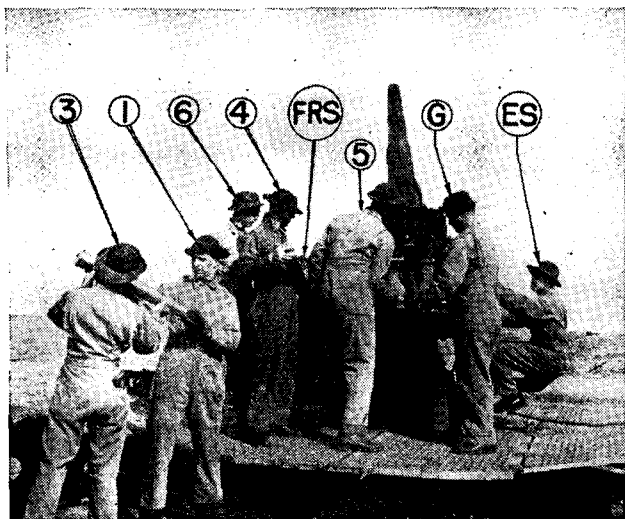

FIGURE 2.—Round being rammed, M3 gun on M2A1 mount
■ 16. METHOD OF RAMMING CARTRIDGE.—The gunner rams the cartridge into the gun with his left hand. He places his gloved fist on the base of the cartridge case, wrist practically vertical, and sweeps the round smartly into the breech, applying continuous pressure, until the closing breechblock knocks his hand clear. The cartridge is rammed with the side of the fist, the pressure being applied through the back of the thumb and the side of the index finger. In this manner continuous pressure can be applied, and the hand cannot be caught in the breech. Figure 2 illustrates the proper method of ramming.
■ 17. METHOD OF HANDLING AMMUNITION AND FUZE SETTER, M8.—*a.* (1) Nos. 4, 1, and 3 relay ammunition to the fuze setter. No. 3, takes a round from the stack near the piece, right hand grasping the projectile, left hand near the base, turns to the right, and passes it to No. 1. He then repeats the operation. No. 1 takes the round from No. 3, the round resting in his upturned palms, right hand near the base, left hand near the projectile, turns to the left, and lifting the round to the level of his eyes passes it to No. 4, who is stationed on the mount platform. He then turns to the right and receives another round from No. 3, repeating the operation. No. 4, stationed on the mount platform slightly to the rear and left of the fuze setter guide, turns to the right and takes the round from No. 1, fuze toward the setter, left hand grasping the projectile and right hand cupped over the cartridge base. He turns to the left, advancing a step toward the setter as he raises the base end to align the round with the axis of the setter. As the fuze enters the setter guide his left hand is withdrawn, and with his right hand launching the round downward to its final seating in the setter, he leans forward and, being balanced by his right hand, which is *pressing against* the base end of the case, brings his left hand over and strikes a quick slap against the release lever on the top side of fuze setter. At the release of the setting mechanism *No. 4 maintains momentarily his right hand pressure on the base of the completely inserted round* to permit the setting operator, No. 6, time to complete one turn of the crank and call out, "Cut." No. 4 then straightens
(1) No. 4 maintaining pressure against the cartridge case base until No. 6 commands, "Cut." The use of a heavy glove on the right hand of No. 4 will greatly reduce the friction against his hand produced by the rotating case.
(2) No. 4 executing the release of the crank with a *glancing* slap at the release lever so that the latter will instantly recover and re-arm itself before No. 6 has completed a full revolution of the crank.
(3) No. 6 must maintain sufficient downward pressure on crank so rotation will start the instant the release is tripped. Otherwise, No. 4 would have to hold the release lever "open" and possibly fail to let it re-arm in time for the crank at the end of its one revolution. When setting original or reconditioned Mk. III or Mk. IIIA1 powder train fuzes, the setting crank of the fuze setter should be turned at a moderate speed until the setting pawls have engaged the body lug of the fuze, after which the crank may be speeded up for the remaining 180° or so of the setting cycle. The body lug in the above type fuzes will not withstand the pick-up force which may be applied by the high speed of the M8 fuze setter.
d. Figures 2 and 3 illustrate the service of ammunition to the fuze setter and to the breech. Figure 2 shows No. 5 holding the round in position for loading, with the gunner in